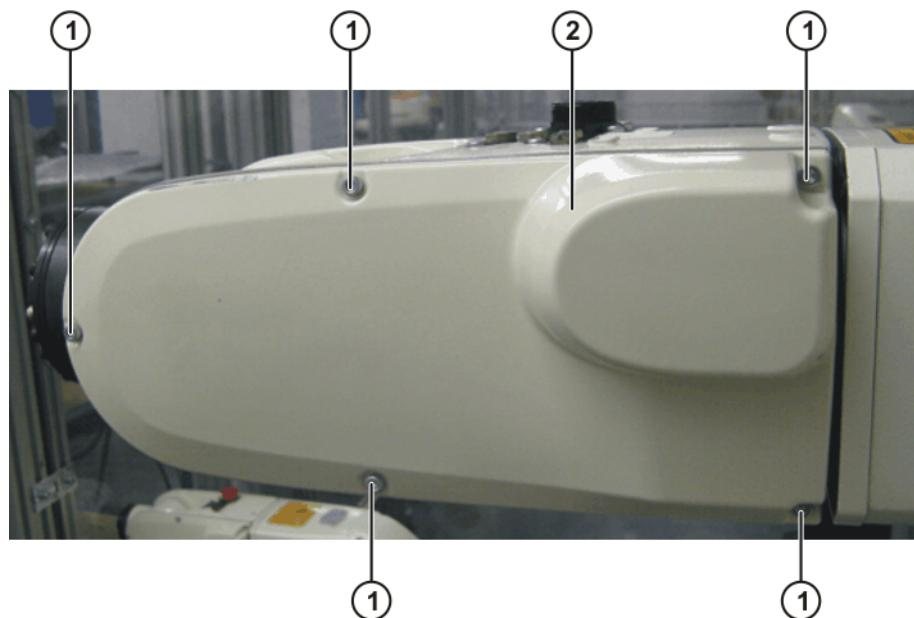

Fig. 10-6: Cover A6
1. Remove 5 screws (>>> Fig. 10-6) from the arm.
7. Mount the cover (>>> Fig. 10-6).